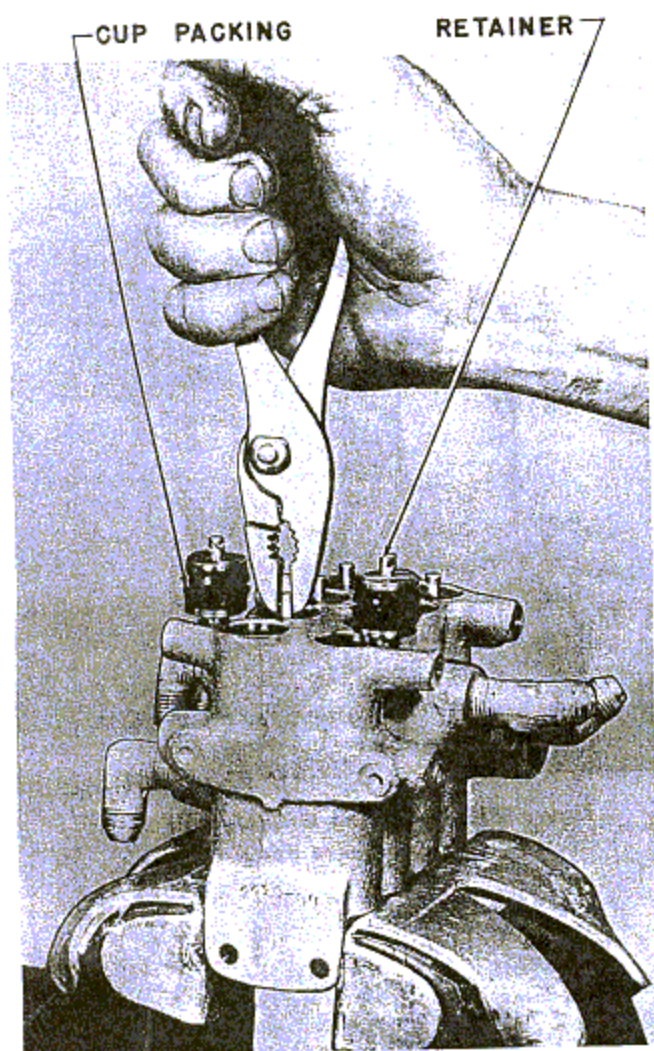

Figure 234—Removing Retainers
7. After the rings are all removed, engage the ends of the retainers with a pair of pliers and pull the retainers free of the valve body. (See figure 234.)